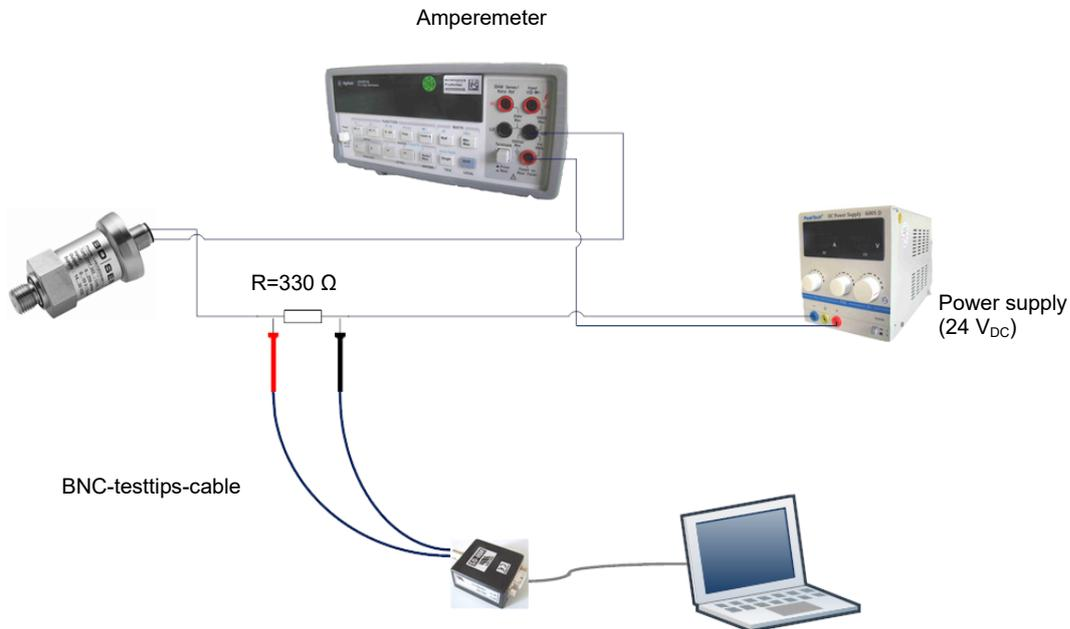

Fig. 4 Wiring diagram of CIS 150-RS232 for HART®-devices
- Bind all the Parts according to the Fig. 4 Wiring diagram of CIS 150-RS232 with your measurement device and PC.